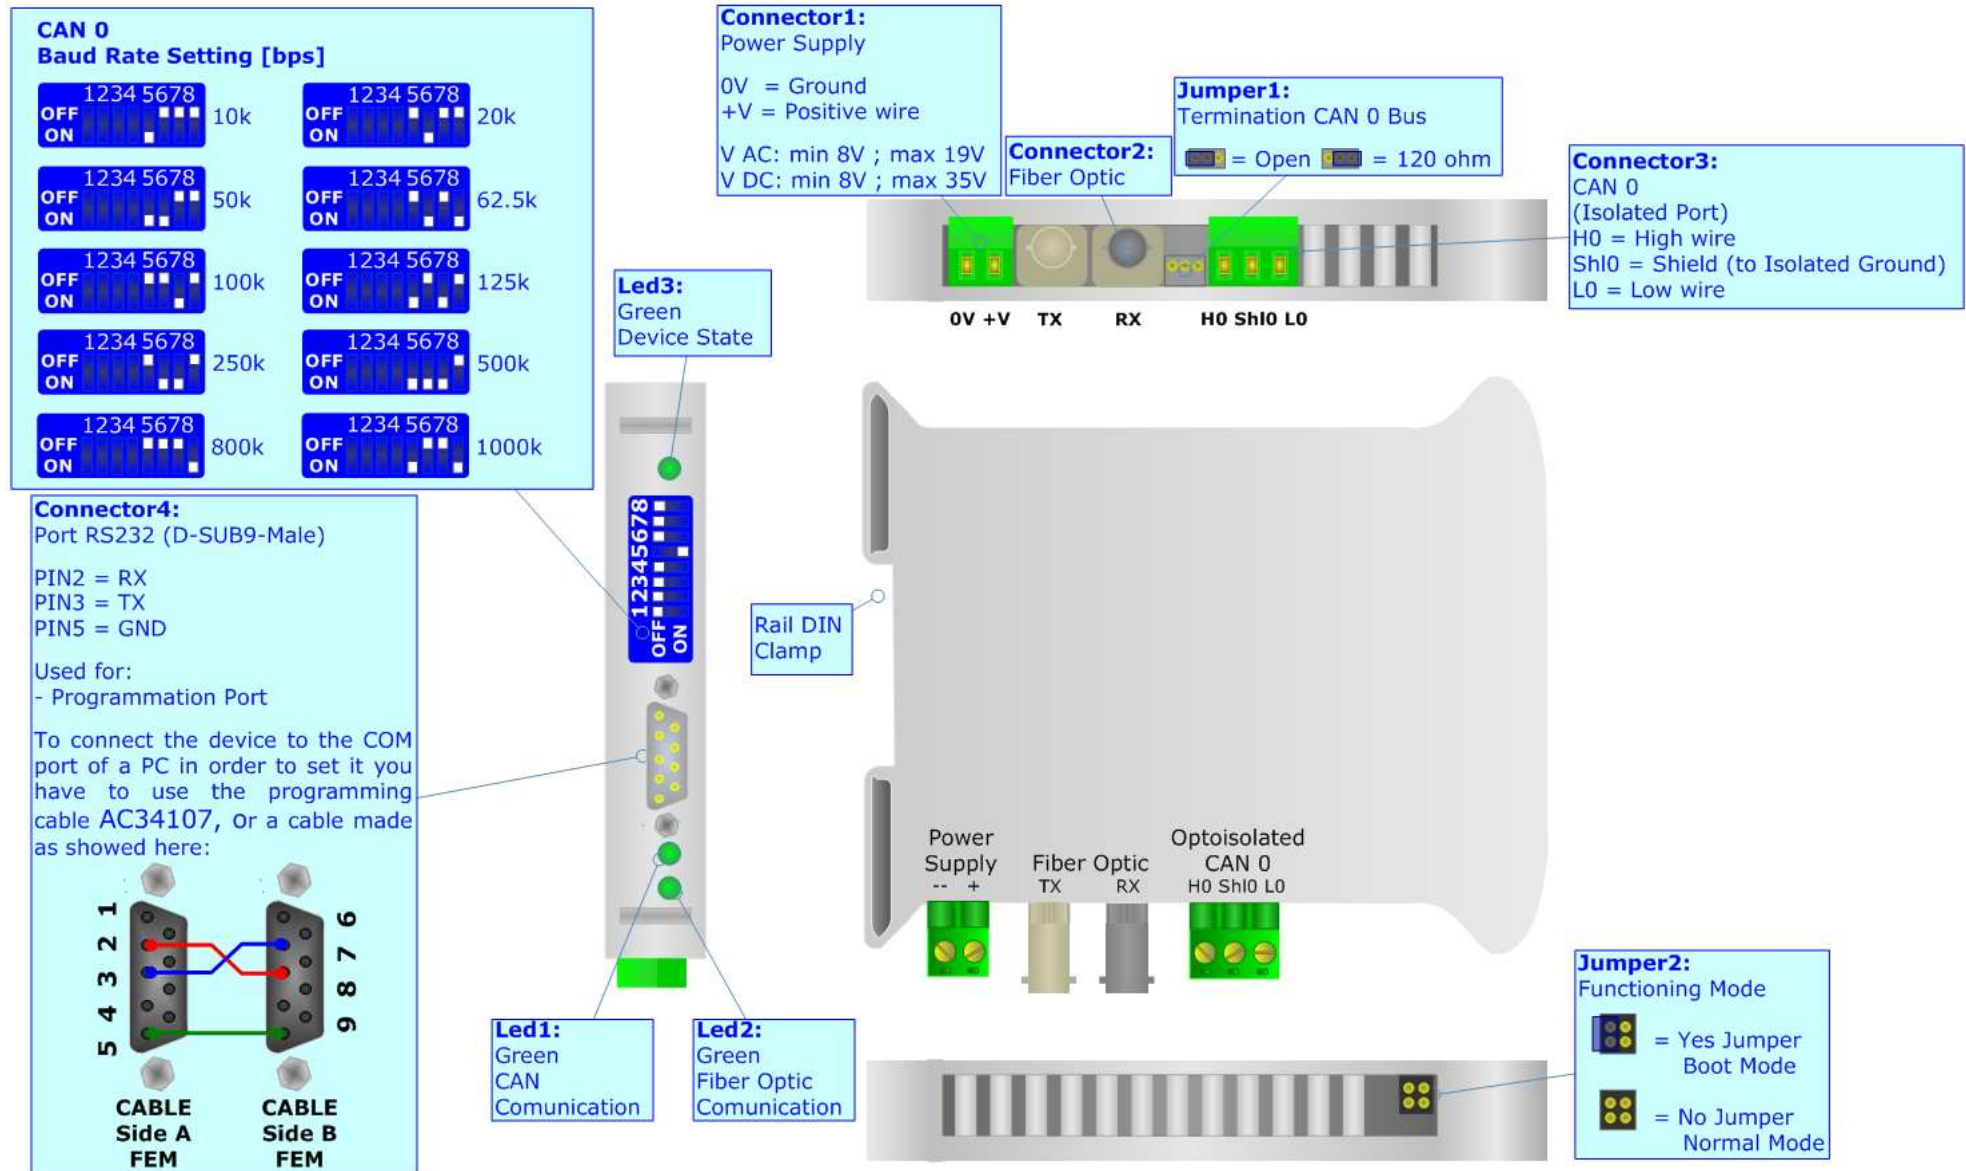

Figure 5: Connection scheme for HD67117/180/181/182FSX
- Insert the Boot Jumper (For more info see Fig. 5);
- Check the BOOT Led. It must blink quickly (For more info see Fig. 5);